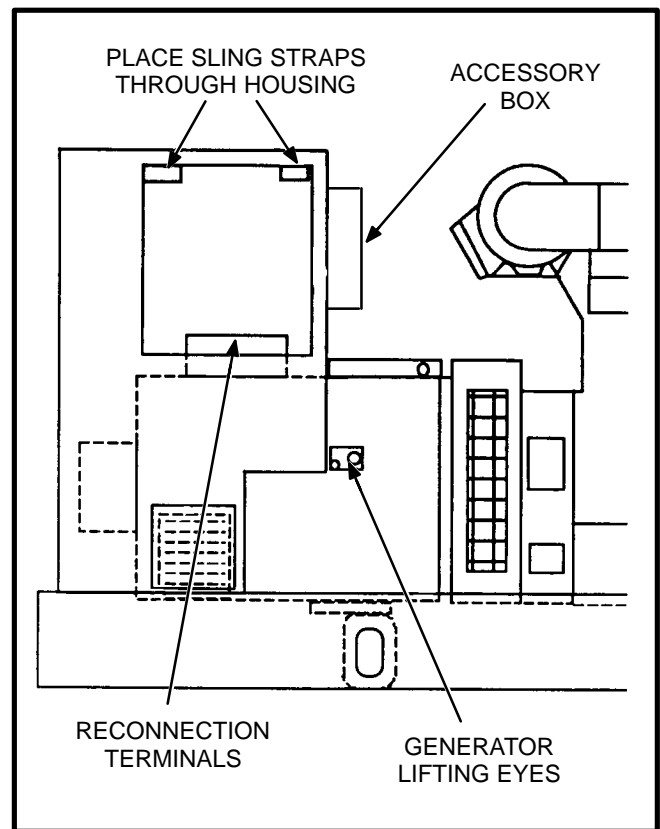

FIGURE 6-8. REMOVING CONTROL HOUSING
4. Disconnect all load wires from the reconnection terminal block assembly (see Figure 6-8). If equipped with the circuit breaker option, disconnect load wires from circuit breaker. Check that all leads are labeled to ease reassembly.
7. Use a hoist or similar lifting device to support the control housing assembly (see Figure 6-8).